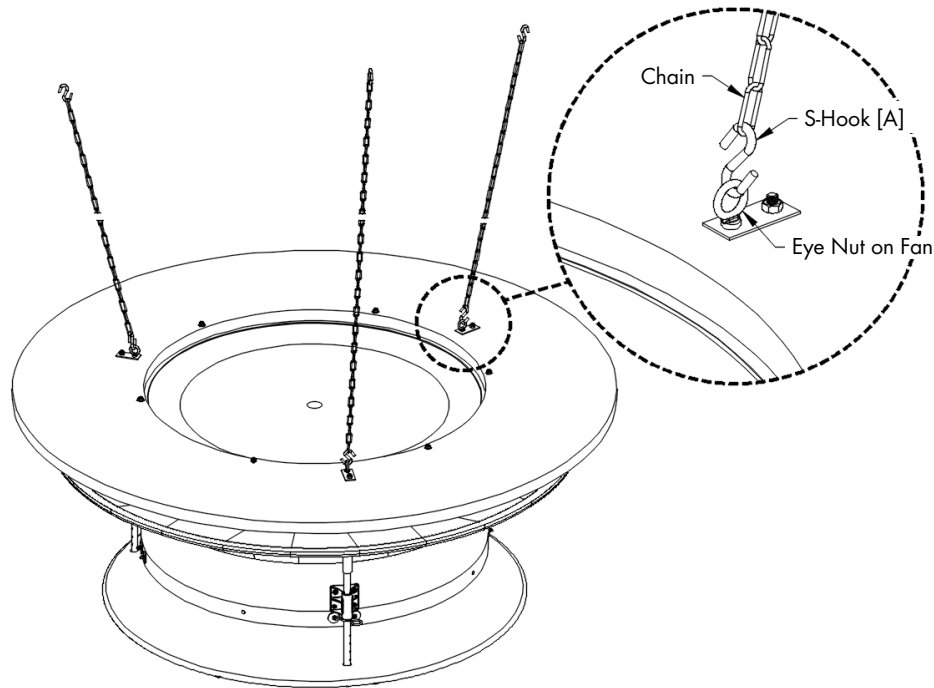

Figure 1
Hang Fan Assembly from each Eye Nut to 3 separate points on ceiling or truss using (6) S-Hooks [A] and (3) Chains. See Figure 1. Chains must not run straight up, but should be at a slight angle. Hanging points must be capable of holding the weight of the Fan Assembly (200 lbs. [90 Kg]).